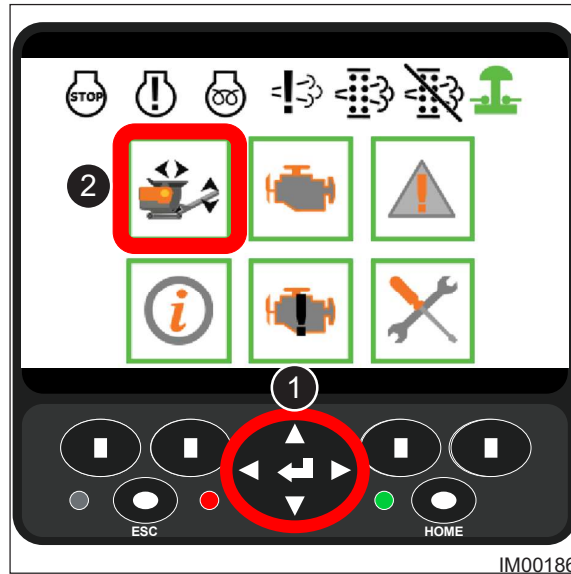

Fig: 7.18 - Menu Select Screen
9. On the menu select screen (Fig: 7.18), use the Arrow Buttons (Item 1) to select the Machine Setup Icon (Item 2) and press enter.